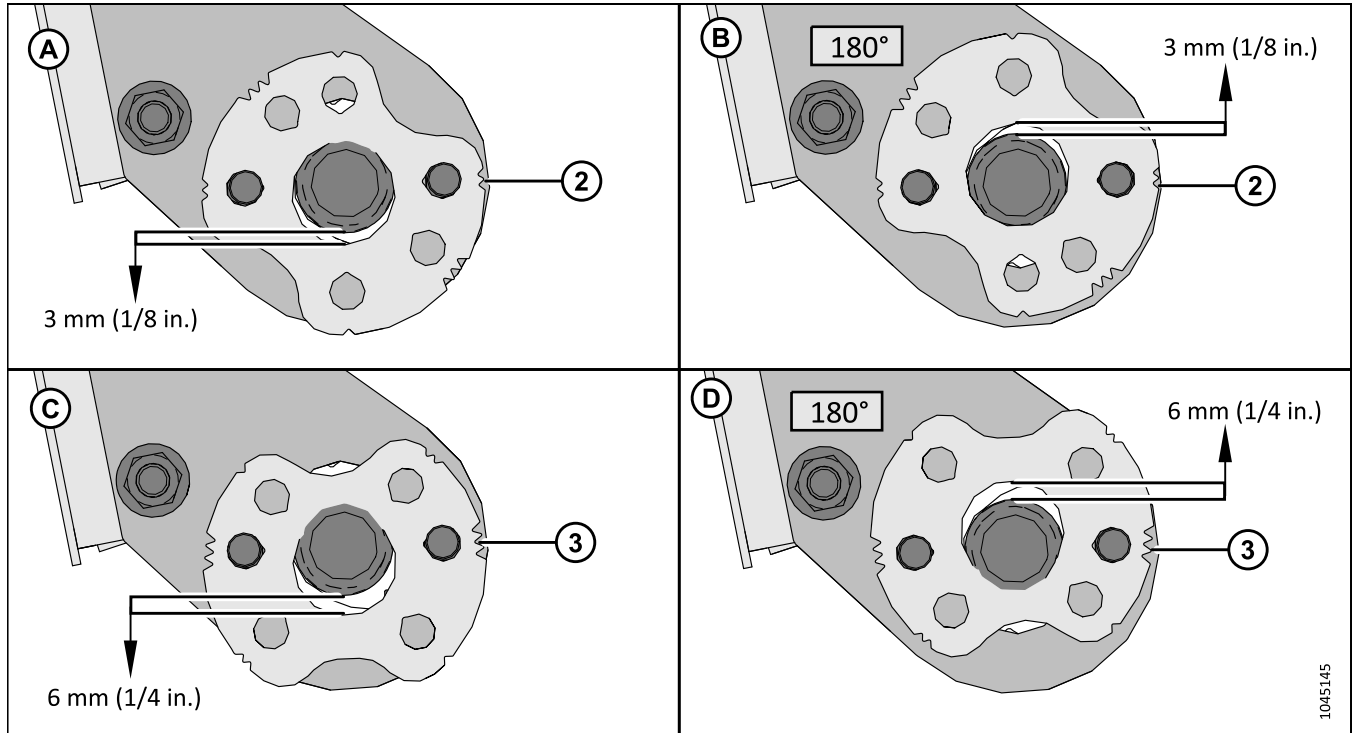

Figure 10.29: AF11 Adjuster Plate Positions
9. **AF11 combines:** If an adjustment is needed, note the position of locking pins compared to the center hole of the adjuster plates, remove nuts (C) and reposition adjuster plates (A) as needed. Refer to Figure 10.29, page .